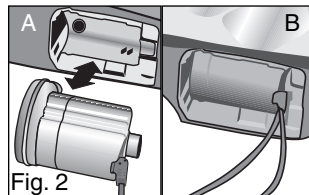

Fig. 2
1. Remove pump from housing (see Figure 2 & 6).
6. Snap the pump back into housing (see Figure 2 & 10).